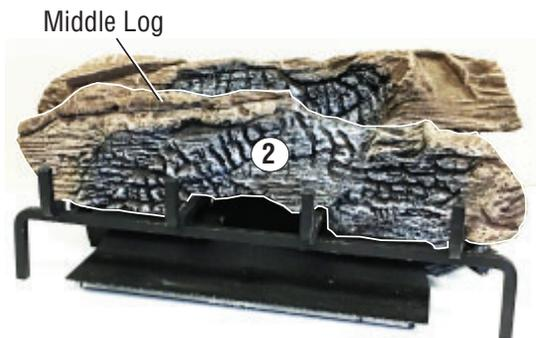

Figure 42 - Installing Middle Log #2
2. Place the middle log (#2) in front of "U"-burner and against the edges of plate as shown in **Figure 42**.